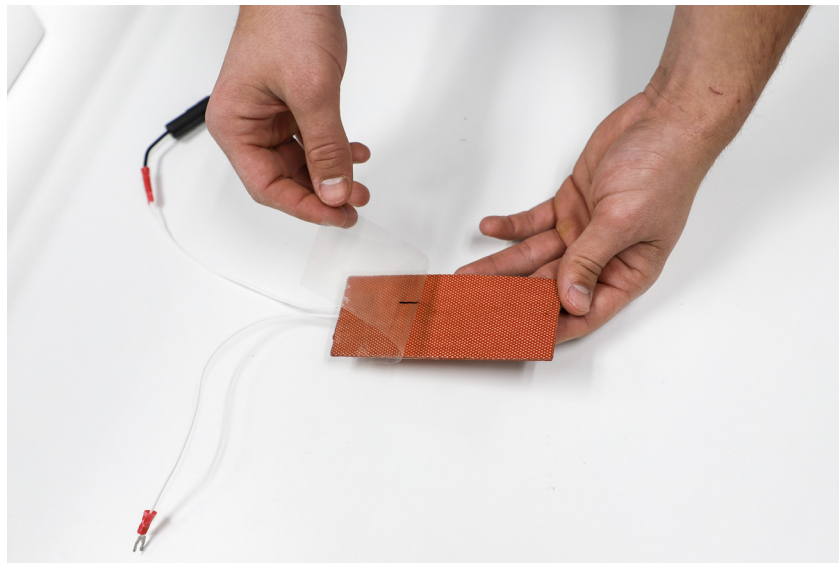

Figure 9
- e. Install the heater by removing the protective film, see **Figure 9**. After removing the film, do not touch the sticky side of the heater or place it sticky-side down.